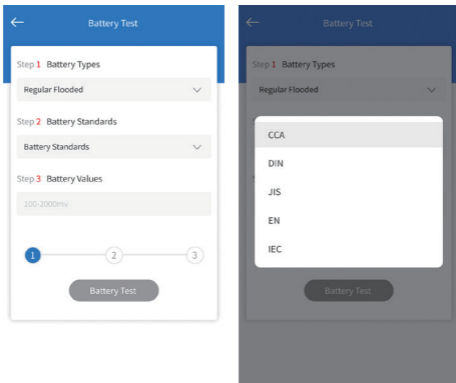

Figure 4.1.2
3. Select the corresponding battery standard (See figure 4.1.2). The specific battery standard will also be listed on the battery label.